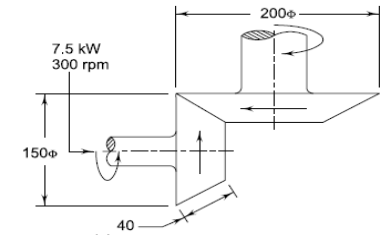

Figure 2 (All dimensions are in mm)
4. (a) A pair of bevel gears transmitting 7.5 kW at 300 rpm is shown in Figure 2. The pressure angle is 20°. Determine the components of the resultant gear tooth force and draw a free-body diagram of forces acting on the pinion and the gear.